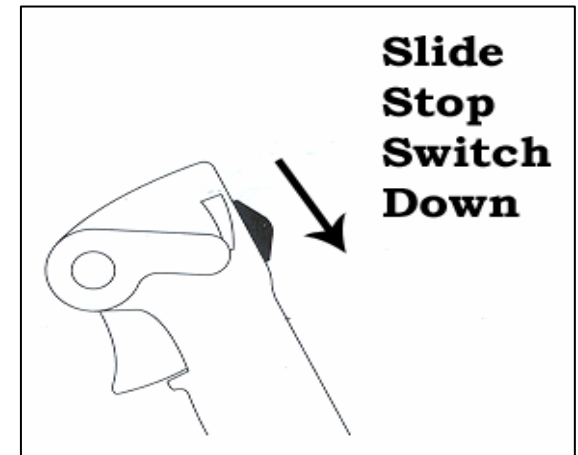

Fig. 35. Stop engine: Stop switch to “down” position.
- 12. To stop the engine, slide the stop switch “downwards” (Fig. 35).